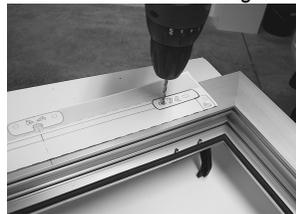

Figure 10
- D. Bore holes in the window frame at the points indicated on the template (Fig. 10).